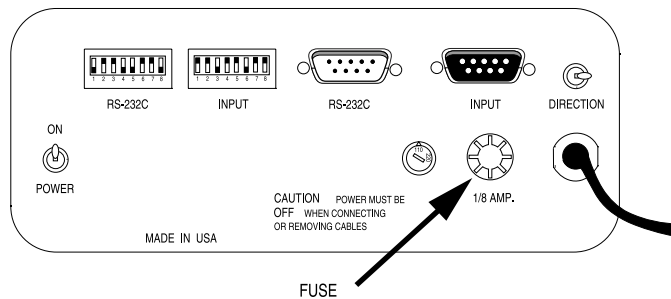

Figure 1.9
The Microcode II digital readout is designed to operate with all Boeckeler measurement devices. The readout is configured for a particular device by setting dip switches located on the back panel. The set of eight (8) dip switches for use with measuring devices are labeled "INPUT." Each readout axis has its own set of dip switches, so, instead of one set of INPUT dip switches as shown in **Figure 1.9**, a 3-axis digital readout would have three sets of INPUT dip switches.